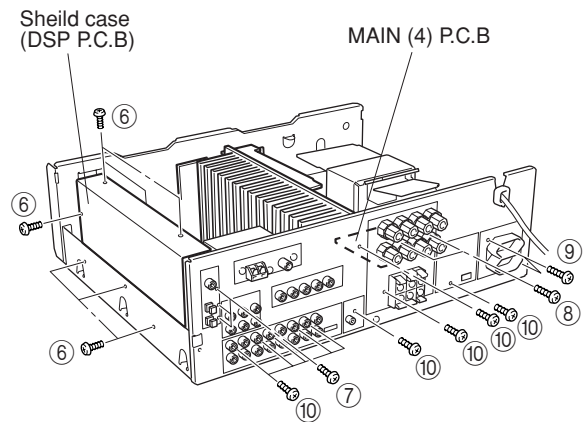

Fig. 2
4. Removal of DSP P.C.B. (Fig. 2)
- Remove 6 screws (⑥) and 3 screws (⑦).
5. Removal of MAIN (4) P.C.B. (Fig. 2)
6. Removal of MAIN (1) P.C.B.
- Remove 3 screws (⑦), 2 screws (⑧), 2 screws (⑨) and 11 screws (⑩). (Fig. 2)